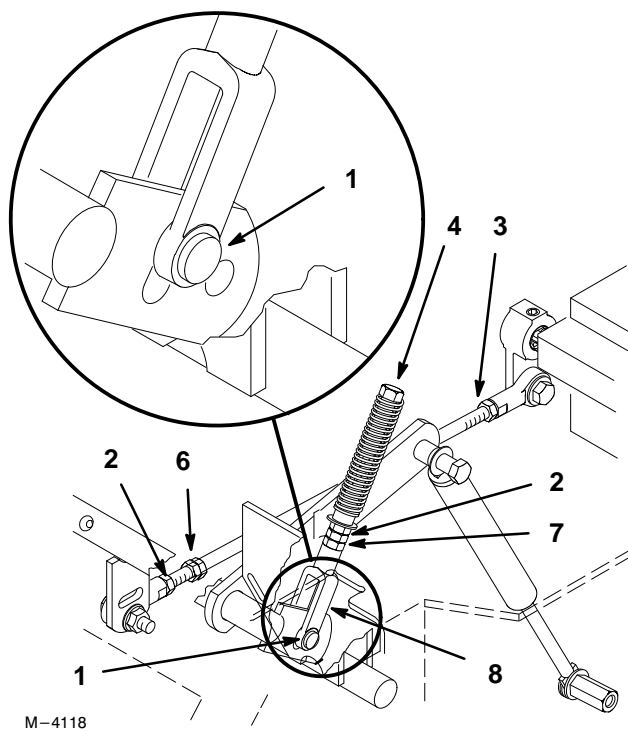

Figure 49
2. Begin with either the left or right motion control lever. Move lever to the neutral (but not locked) position and pull lever back until the clevis pin (on arm below pivot shaft) contacts the end of the slot (just beginning to put pressure on spring) (Fig. 49).
4. If adjustment is needed, loosen the nut against the yoke (Fig. 49).
5. Apply slight rearward pressure on the motion control lever, turn the head of the adjustment bolt in the appropriate direction until lever is centered in neutral lock position (keeping rearward pressure on the lever will keep the pin at the end of the slot and allow the adjustment bolt to move the lever to the appropriate position (Fig. 49).
- Loosen locknut at ball joint on pump control rod (Fig. 49).
- Adjust pump rod length by rotating double nuts on rod, in the appropriate direction, until wheel is still or slightly creeps in reverse (Fig. 49).